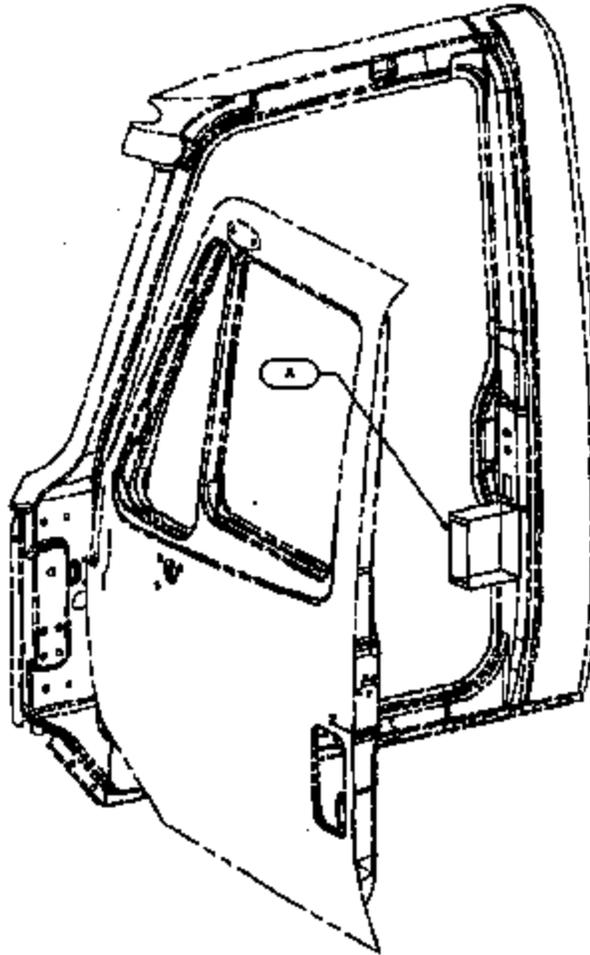

Figure 1
2. Label is to be installed on the **DRIVER's** side door frame area as shown in Figure 1, Item 'A'.